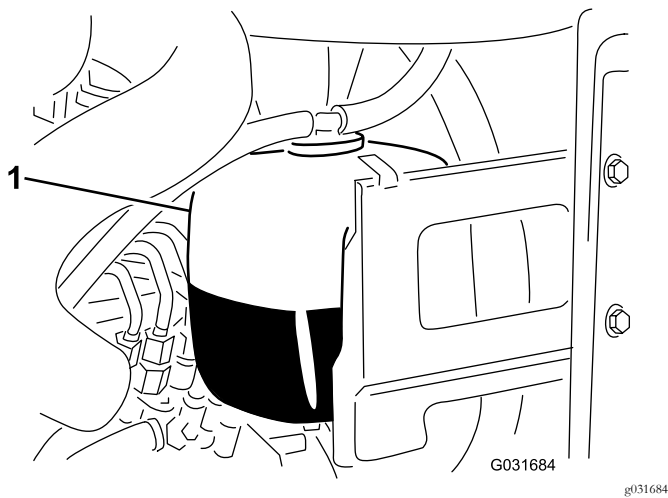

Figure 49
- Check the level of coolant in the expansion tank (Figure 49).